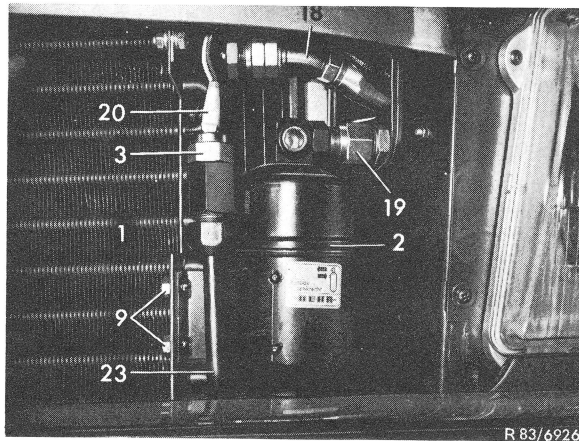
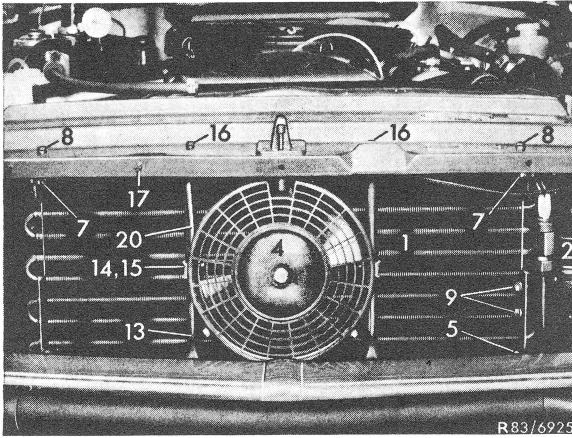

Figure 1
Figure 2
- 3 Unscrew hose lines (18 and 19) from condenser (1) and receiver (2) (Fig. 1).
- 4 Pull the two plugs (20) from temperature switch (3).
- 6 Unscrew two sheet metal screws (5) on cross beam, unscrew hex. screws (7) and remove condenser (1) toward rear (Fig. 2).
- 7 Loosen pipeline (23) from receiver.
- 8 Unscrew hex. nuts (9) and remove receiver (2) from condenser (1).
**10** Screw receiver (2) to condenser by means of fastening members (9). Connect pipeline, coat threads with refrigeration oil (Fig. 1).
**11** Place condenser on cross beam and screw down with hexagon sheet metal screws (5) (Fig. 2).
**12** Screw condenser on top to holders by means of fastening members (7). Make sure that the distance between condenser and radiator is uniform.
**13** Mount hose lines (18 and 19) to condenser and receiver. Moisten threads with refrigeration oil and apply counterhold with open end wrench when tightening (Fig. 1).
**14** Connect the two plugs (20) on temperature switch (3).